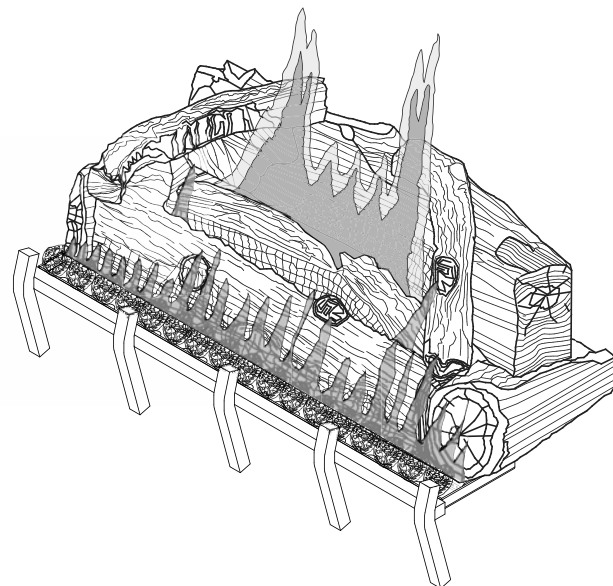

Figure 40 - Typical Flame Pattern
**Figure 40** shows a typical flame pattern.